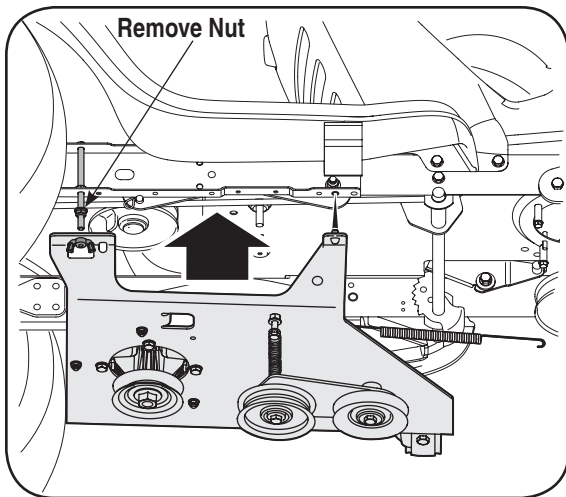

Figure 21
2. Remove the nut from the rear undercarriage mounting stud located on the tractor's frame rail on the right side of the tractor. See Figure 21.